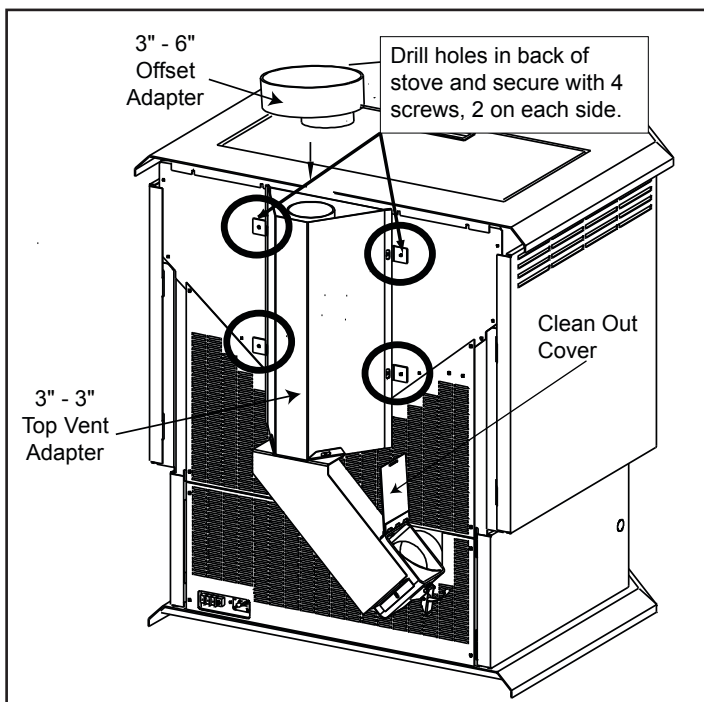

Figure 20.1
3. Drill 4 holes with #26 drill bit (provided) into the back of the appliance using the outer shield as a pattern (make sure the assembly is vertical). **Figure 20.1**
6. To clean the top vent adapter, open the clean-out cover. **See Figure 20.1**